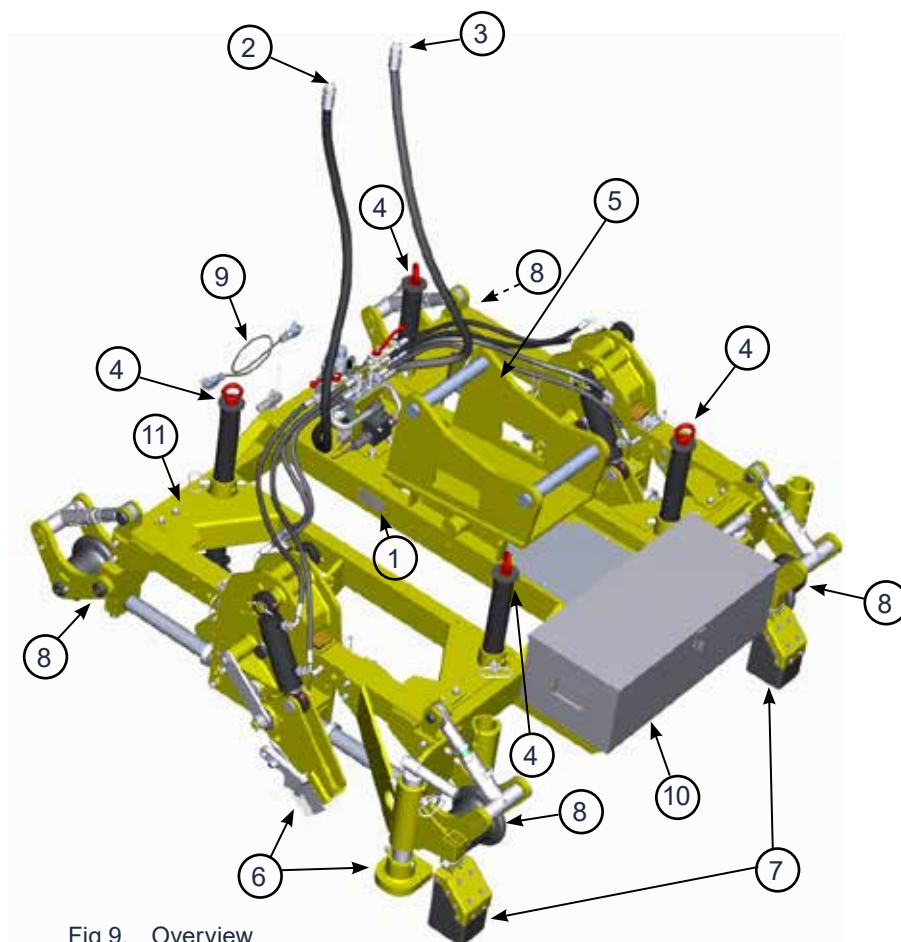

Fig 9. Overview
2. Connect the hydraulic couplings and the electrical plug, fig. 9, to the digging arm.